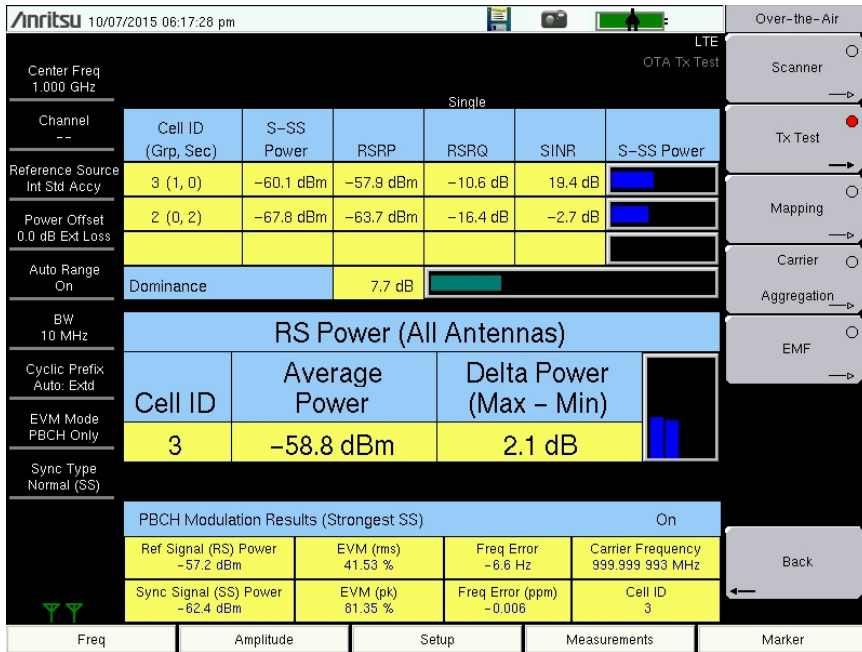

Figure 5-13. Over-the-Air Tx Test Measurement
3. Press the Tx Test submenu key to activate the OTA Tx Test display. See Figure 5-13 on page 5-20. Press the Tx Test key again to display the OTA Tx Test menu.